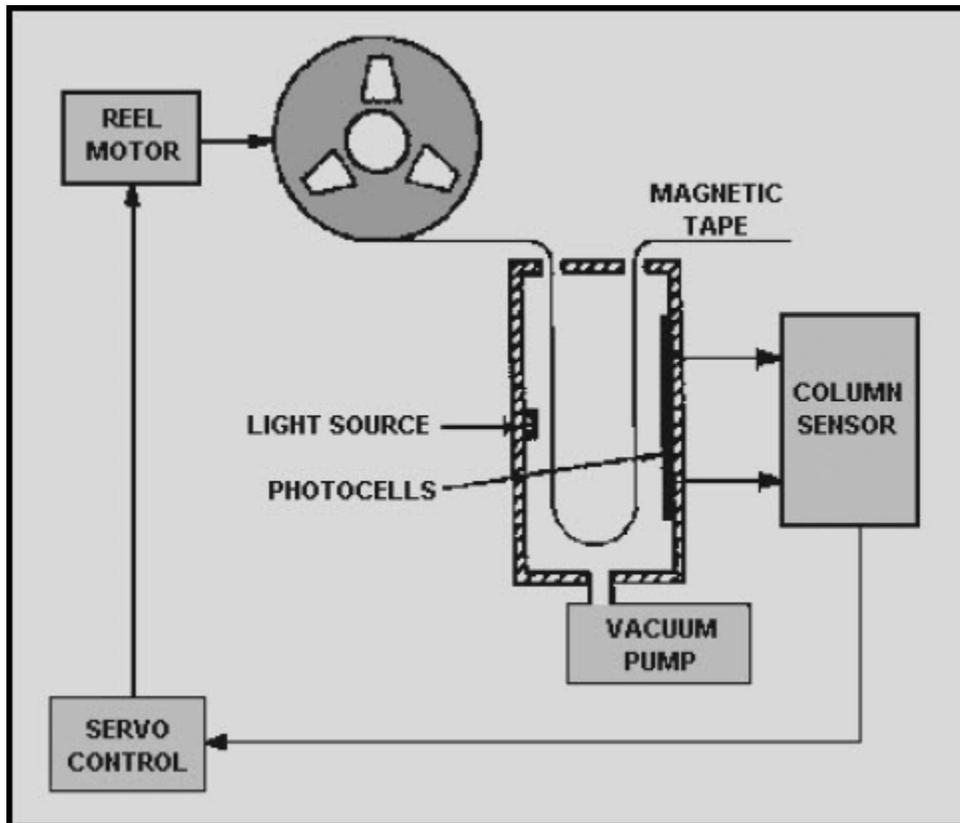

Figure 4-5 Vacuum-column tape buffering system
2. **Vacuum-column** buffering systems operate like the spring-tension systems. They also regulate the speed control servos that control tape reel speed. But, as shown in figure 4-5, the vacuum-column buffer system uses a vacuum chamber instead of a spring to hold a length of magnetic tape as slack during tape recorder starts and stops. An electronic sensor in the vacuum chamber helps to control how much tape is in the buffer.